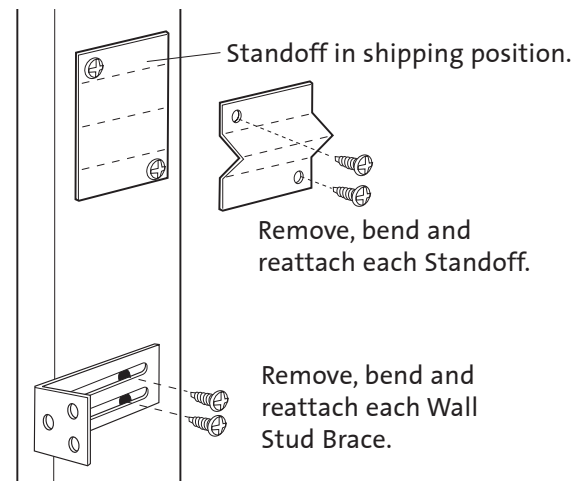

Figure 24. Standoff and Stud Brace orientation.
1. Side Standoffs: Remove the retainer screws. Using vise grips or pliers, fold each standoff at the perforations. Secure each standoff using the screws previously removed. See fig. 24.
2. Wall Stud Brace: Loosen, bend, and position each cabinet Retainer Strap for attachment to the fireplace enclosure. See fig. 24.